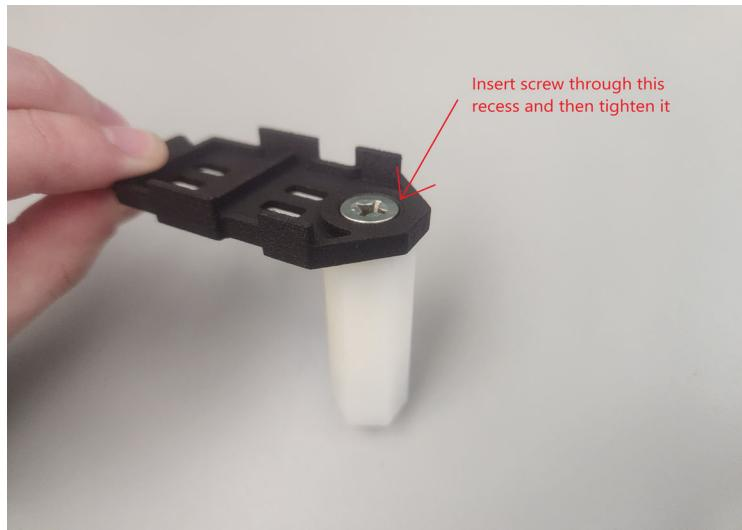

Figure 23 Image of the hex standoff attachment
- b** Insert the machine screw through the top face of the body (see Figure 22) and tighten it into the standoff until secure (see Figure 23).